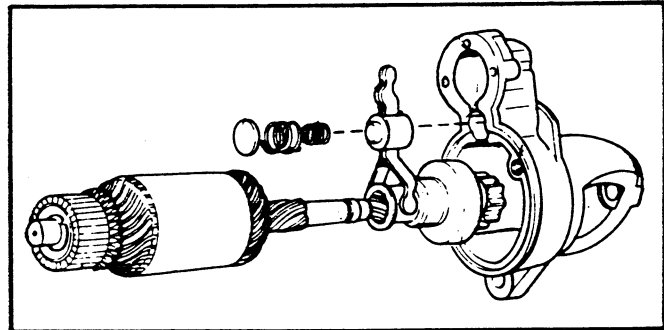

FIGURE 33. REMOVING ARMATURE
3. The armature can easily be removed from the front bracket. Be careful not to miss a small steel washer used in the end of the armature shaft. The shift lever can be removed along with the armature when it is removed. In this case, the spring holder, lever springs and retainer can be taken out before the lever. See Figure 33.